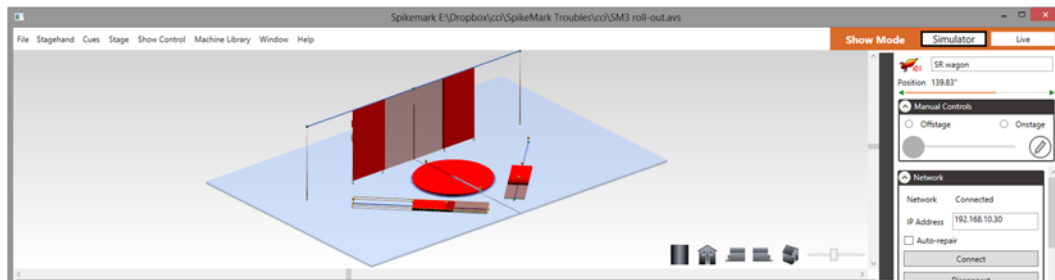
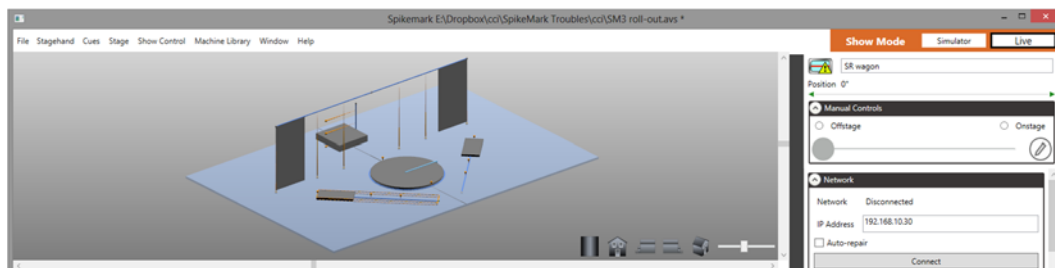

Figure 103
Figure 104
When the mode switch is set to **Simulator**, as shown in Figure 103, all actions are simulated in Spikemark. No motors will actually move, no network connections are made, and no cues will physically run. Instead, all motor movements are simulated mathematically in Spikemark and shown only on-screen so that you can visualize what a cue will look like, and how it will behave from the safety and comfort of a virtual stage. This allows you to try out new techniques, explore scenic motion with the other members of the design team, or present an idea to a director without having to setup literally tons of gear and clear a spot on the stage and time on your production calendar.
By contrast, when the mode switch is set to **Live**, as shown in Figure 104, all commands from Spikemark are sent over the Ethernet network to real **Stagehand** controllers which will move real scenery. In **Live** mode, every action on screen has very real, and potentially dangerous, consequences on the stage where real people are moving around.
2. The background color of the **Stage Model Viewer** is light when Spikemark is in **Simulator** (Figure 103), and dark when in **Live** mode (Figure 104).